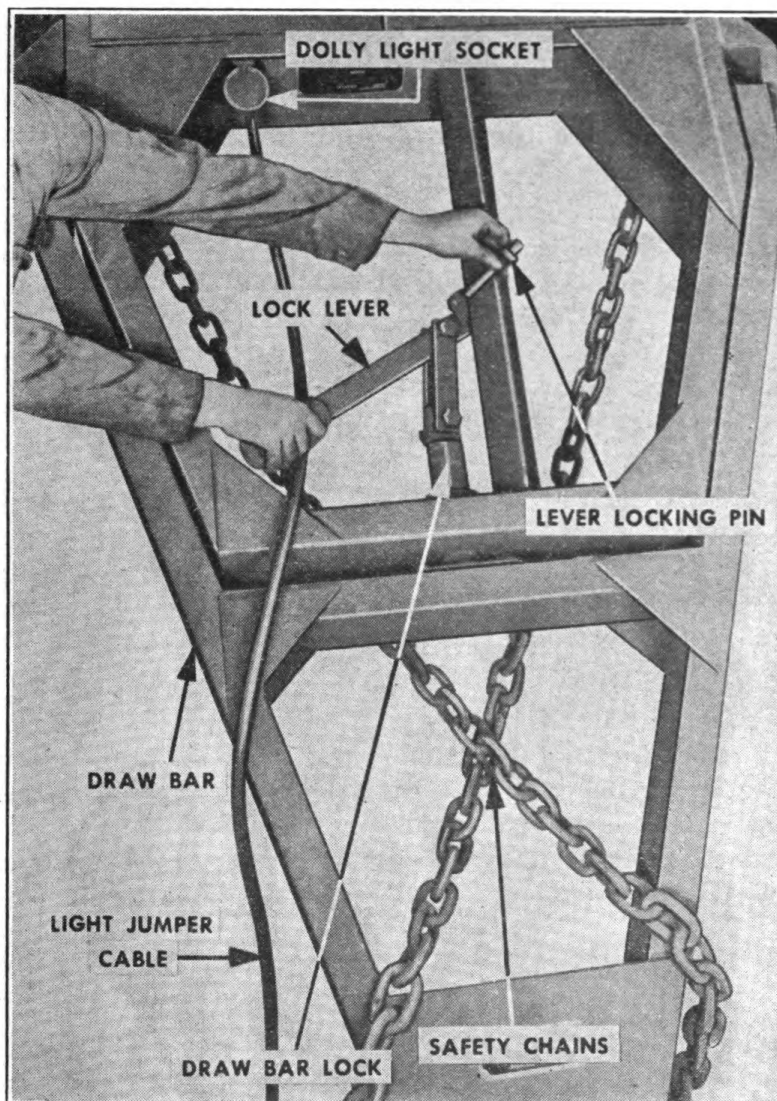

FIGURE 5. CONTROLS—DRAWBAR LOCK.
b. *Drawbar lock* (Fig. 5).—A lock is provided to prevent drawbar from hinging. Drawbar is locked only when dolly is being towed alone. Never attempt to pull the dolly when coupled to the trailer with the drawbar locked.
c. Attach the hook end of right hand safety chain to the eye on left side of tractor-truck. Do not cross the chains over or under drawbar. Instead, thread them through opening at front of drawbar eye (Fig. 5). Repeat the same operation with the other chain, coupling it to the eye on the right side of truck.
b. Pull pin out of drawbar lock (Fig. 5) and put the drawbar lock lever into the "unlocked" position. Install pin in the drawbar. This will keep drawbar in the "unlocked" position.